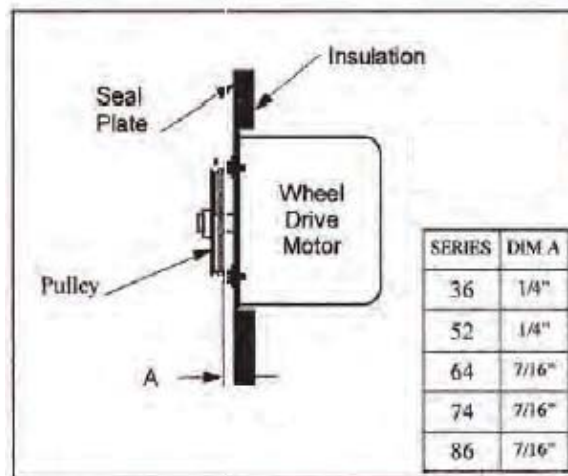

Figure 6 Pulley Location
4. While supporting weight of drive motor in one hand, loosen and remove (4) mounting bolts.
6. Install pulley to dimension shown in (Figure 6) and secure set screw to drive shaft.